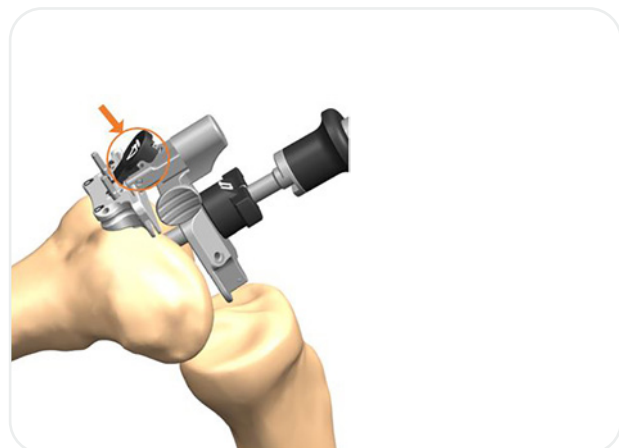

Figure 65
2. Push the button on the Valgus Bridge (**Figure 65**) to remove the alignment assembly from the incision site. Only the distal cutting block should remain on the femur.